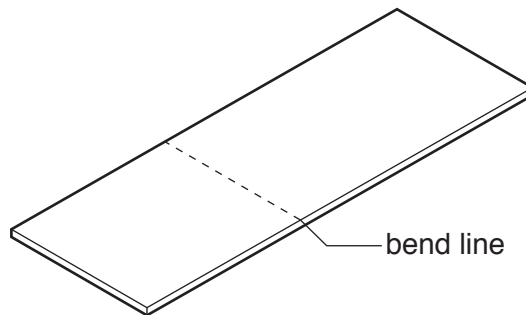

Fig. 8
- (b) Fig. 8 shows one bookend marked out ready to be bent to shape.